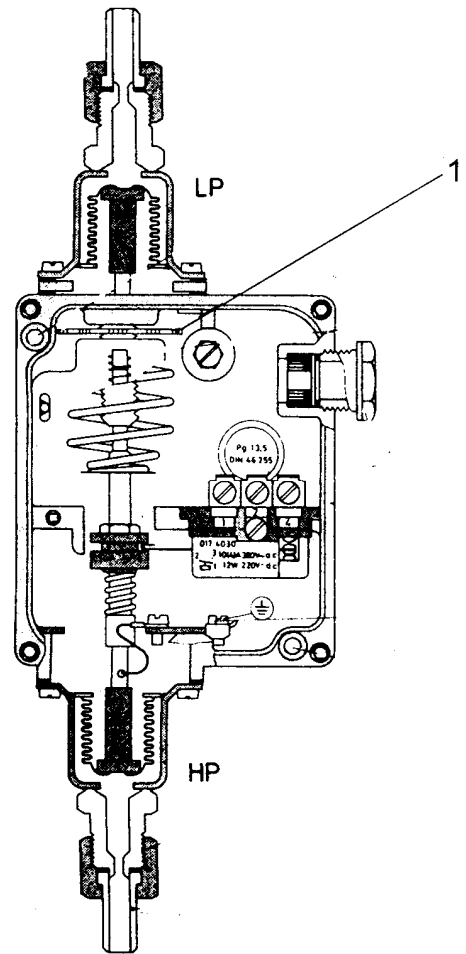

Fig 6
3.6 DANFOSS RT 262 A DIFFERENTIAL PRESSURE SWITCH (Fig. 6)